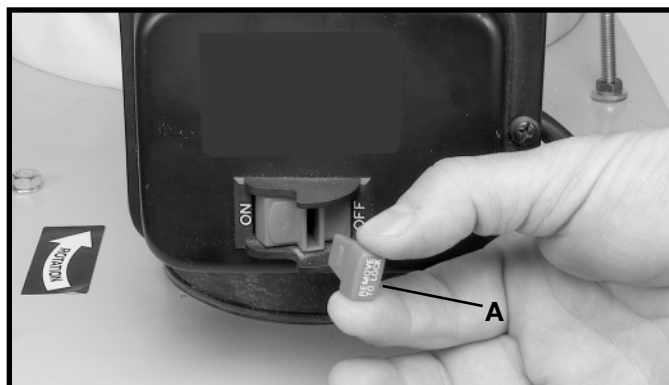

Fig. 20
IMPORTANT: When the machine is not in use, the switch should be locked in the "OFF" position to prevent unauthorized use. To lock the machine, grasp the switch toggle (A) and pull it out of the switch (Fig. 20). With the switch toggle (A) removed, the switch will not operate. However, should the switch toggle be removed while the motor is running, the machine can be turned "OFF," but cannot be restarted without re-inserting the switch toggle (A).